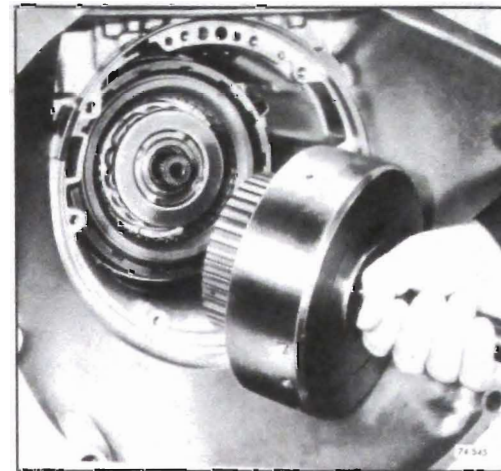

Figure 76-545
5. Remove forward clutch and turbine shaft assembly from transmission. See Figure 76-545.